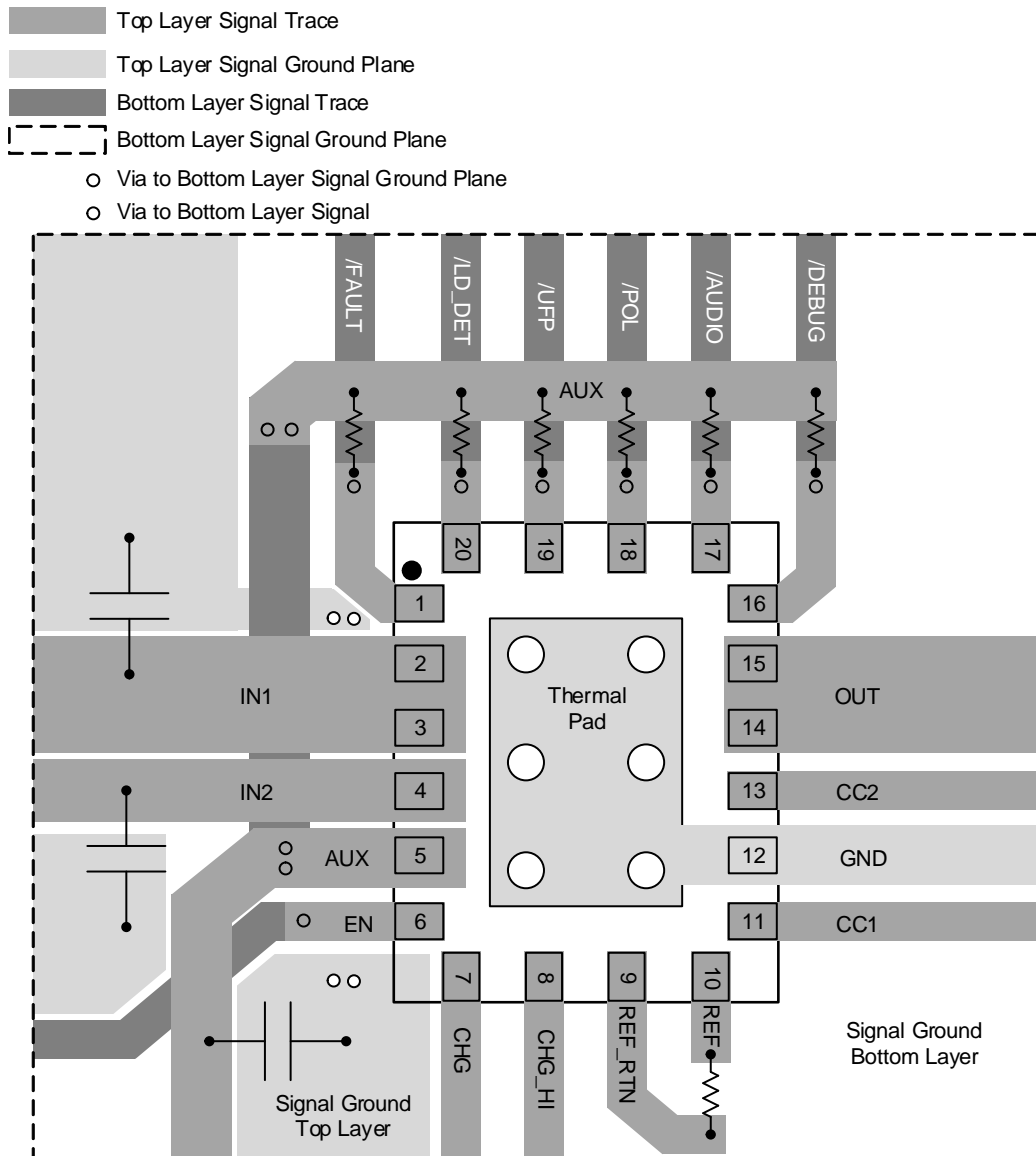

Figure 28. Layout Example
- Care must be taken to minimize the loop area formed by the bypass-capacitor connection, the IN1 pin, and the GND pin of the IC. See Figure 28 for a PCB layout example.
- The REF_RTN pin should be isolated from the GND plane. See Figure 28.